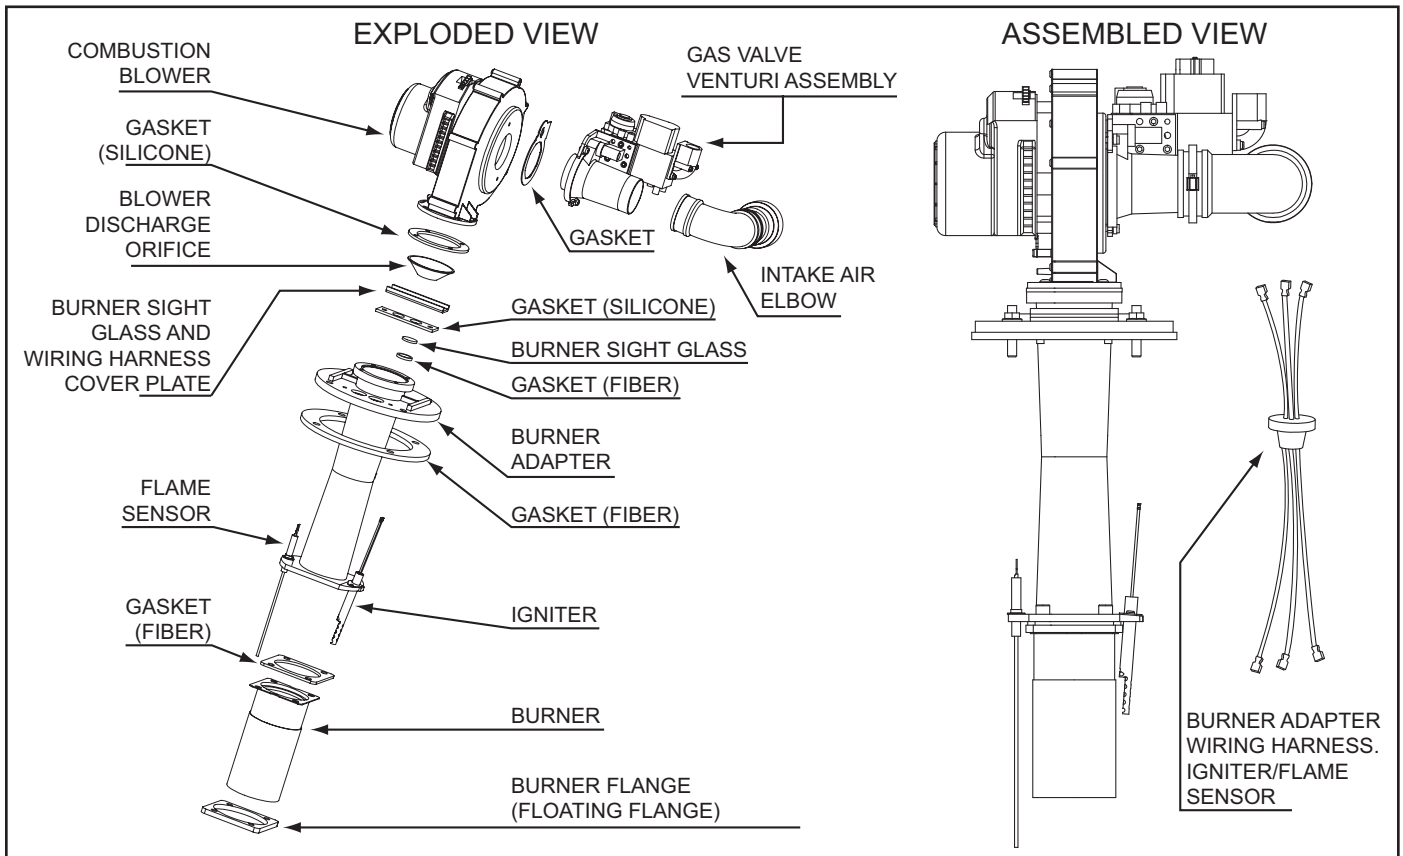

Figure 5
- Plastic debris left on the edges of intake air pipe sections after cutting must be removed on Direct Vent installations. These debris can collect inside and clog the Burner which can cause poor combustion, sooting, rough starting, rough operation and **Ignition Failure** fault conditions and Control System lock outs. The Burner is a radial design that can trap debris, see Figure 5 on page 9.
15. Remove the four 5/16 inch hex head machine screws holding the Burner to the Burner Adapter and remove the Burner from the Burner Adapter. See Figure 5 on page 9.
18. Install a new white fiber gasket between the Burner Adapter and the Heat Exchanger Flange on top of the water heater. Install a new white fiber gasket between the Burner and the Burner Adapter also. See Figure 5 on page 9.